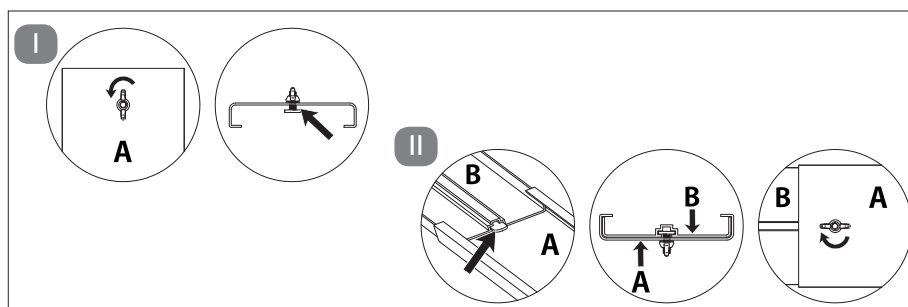

Fig. 14 – Adjusting the size of the window kit
- ▶ Loosen the wing nut until there is enough space between part A of the window kit and the slider. (See Fig. 14 Step I).
- ▶ Insert the two parts of the window kit A & B into each other so that the slider engages in the groove of part B of the window kit. Adjust the window kit to the desired size by pushing the window kit together or pulling it apart and tighten the wing nut again. (See Fig. 14 Step II).